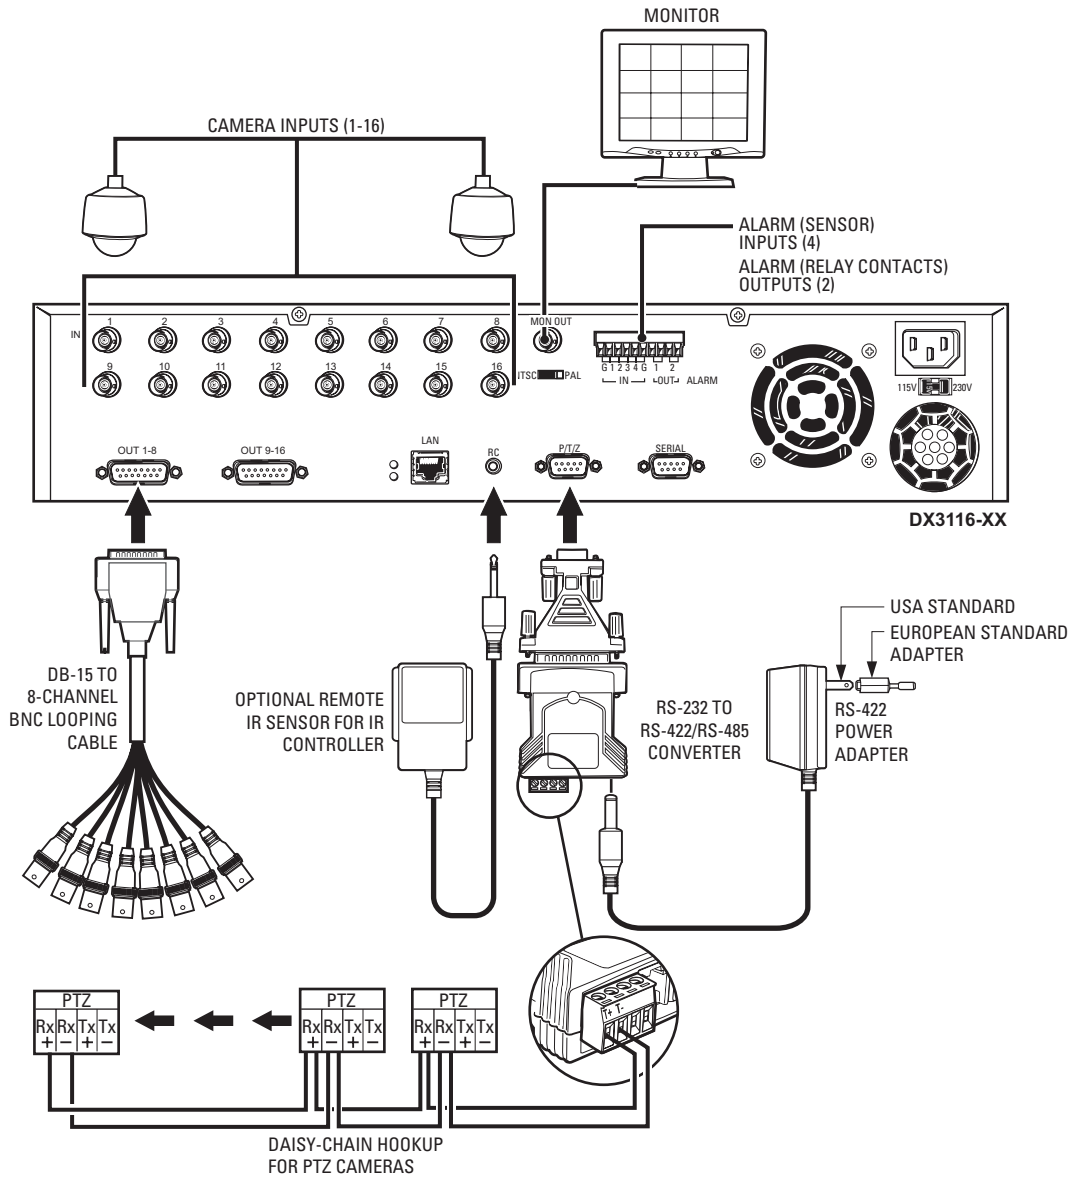

Figure 4. DX3100 Series Installation
Use the following instructions to attach all equipment to be used with the recorder. Use Figure 4 as a visual guide for connecting various types of equipment.
1. Connect the control wires from the receiver to the RS-232 to RS-422/RS-485 converter. The DX3100 can support up to 16 PTZ devices. (Refer to Table B and Figure 4.)
6. Plug the power adapter into a power source. The standard European plug is attached to the power adapter. To convert the adapter to the USA standard, loosen the Phillips screw and remove the European plug (refer to Figure 4).